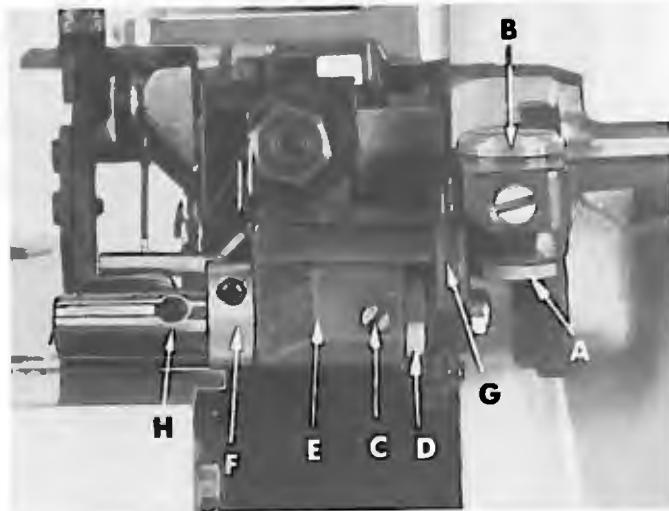
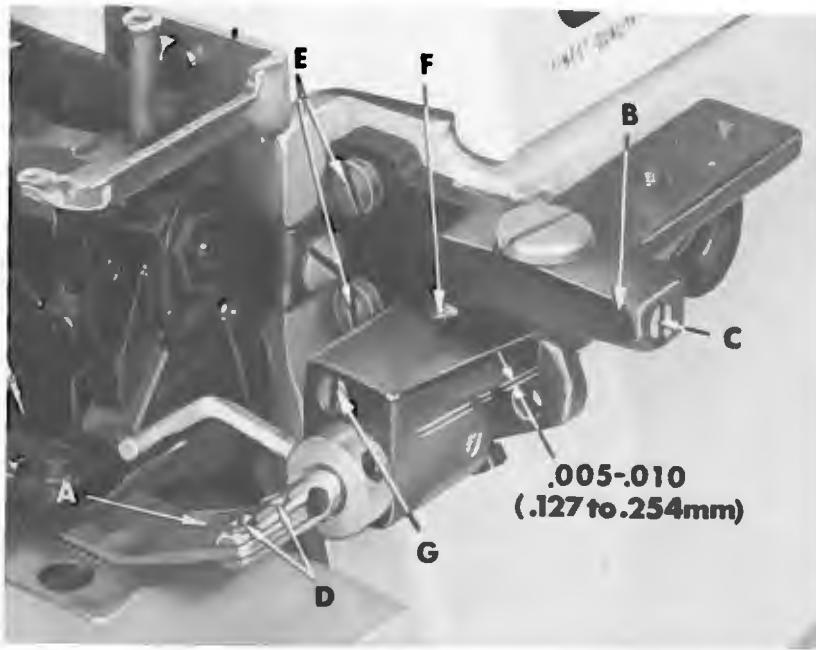

Fig. 19
Fig. 20
Styles 39500 QT, RD, RL, RT, TM and TT are equipped with an auxiliary pressure plate assembly (Fig. 19) which operates in conjunction with the presser foot. Check the operation of this assembly as follows:
1. Swing the pressure plate assembly in and out of its operating position and check to assure that it hinges freely on its pivot. If not, loosen lock nut (A, Fig. 19) and adjust shoulder screw (B) for smooth operation.
2. Loosen set screw (C, Fig. 19) and turn the shaft collar (D) counter-clockwise (viewed from the left side of machine) using the spanner wrench provided, so there is some tension on the tension spring located in the shaft bracket (E) and the pressure plate (A, Fig. 20) is forced down slightly.
3. Adjust tension spring, located in the mounting bracket (B, Fig. 20) with inner screw, after removing outer screw (C). Spring should be tight enough to allow assembly to snap into place and still allow the mechanism to swing out easily. Lock inner screw with outer screw (C).
4. With the feed dogs down, look horizontally between the pressure plate and the throat plate from the front of the machine to assure that the pressure plate lies flat on the throat plate. If not, loosen the two screws (D, Fig. 20) which hold the pressure plate (A) and adjust flat to the throat plate.
5. Raise or lower the mounting bracket (B, Fig. 20) by loosening screws (E) so that, from the side, the pressure plate is parallel and flat on the throat plate. Retighten screws (E).
6. Adjust screw (F, Fig. 20) so that the front edge of the pressure plate is square to the feed dog teeth. Lock with screw (G).
7. Center pressure plate over the feed dogs by loosening the screws in the actuating collar (F, Fig. 19) and the operating lever (G), and then adjust shaft (H) laterally as required.
8. When retightening operating lever screw make sure that the feed dogs and the pressure plate are down, then tighten operating lever screw leaving approximately .005 to .010 inch (.127 to .254 mm) clearance (See Fig. 20) between operating lever and shaft bracket (E, Fig. 19).
9. With feed dogs up, check from the left side to see if the clearance between the pressure plate and the presser foot is wide enough to allow the largest seam to pass. If not, adjustment can be made by loosening screws (E, Fig. 20) and moving the mounting bracket (B) straight toward the operator. Retighten screws (E). Recheck Step 4.
10. The actuating collar (F, Fig. 19) should now be set so that, throughout one revolution of the machine, the minimum distance between the lifter rod and the presser foot is  $1/32$  inch (.79 mm). The lifter rod should be set to clear the tip of the presser foot if it is important that the shirring mechanism can be swung away without moving the presser foot away first.
11. Loosen set screw (C, Fig. 19) for final adjustment of pressure plate tension spring. Turn shaft collar (D) with spanner wrench until desired tension is acquired to obtain a uniform shirr. Retighten set screw (C).